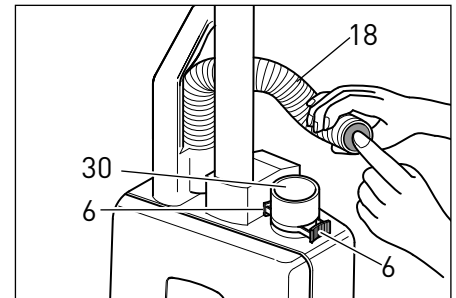

Figure 20
Clogs in the Attachment Hose - Figure 20
Remove attachment hose (18) from vacuum cleaner (see figure 20) and remove front cover (8). Clean out connecting tube (30) and/or entrance to bag (49).